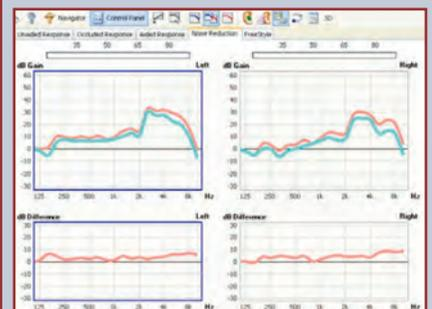

Figure 2. Bilateral noise reduction results, including difference curves, on the Aurical FreeFit.⁴
- 8) Capture the resulting curves. Most equipment will provide a start and end curve, showing the amount of noise reduction that occurred during the course of the test. Some will also show a difference curve to quantify the amount of reduction (Figure 2).